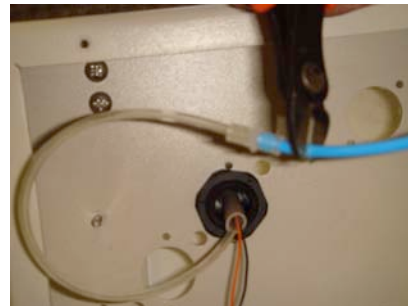

Fig.4 Cut tubing on either side of barb/connector
5. Follow the clear waterline tubing inside the ultrasonic cord to the straight through barb/connector and cut connecting blue tube from the coolant control valve. (Fig.4)